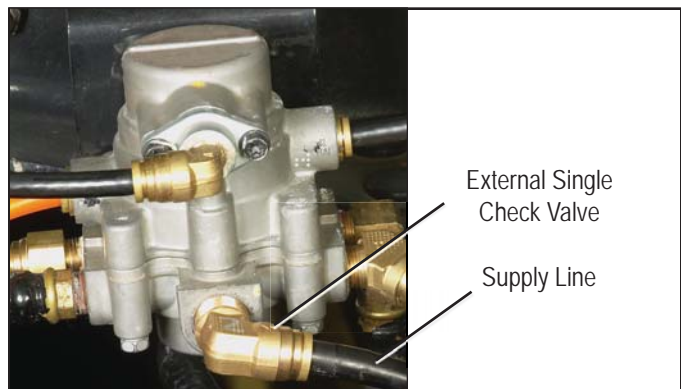

Figure 2 - SR-7™ VALVE AND EXTERNAL SINGLE CHECK VALVE
3. If an external single check valve is present, disconnect the air line to the check valve. Refer to Figures 2 and 3.